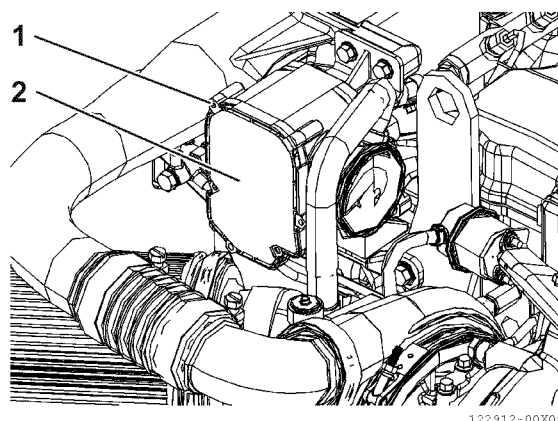

Figure 6
1. Loosen the screws (**Figure 6, (1)**) and remove the filter housing cover (**Figure 6, (2)**).